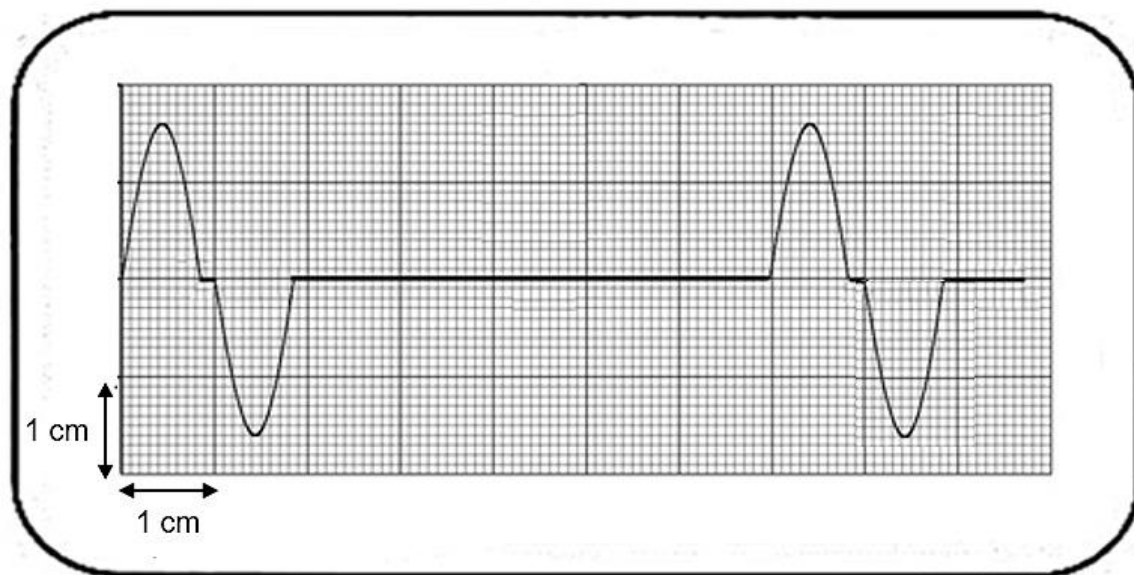

Fig. 5.2 (not to scale)
The voltage produced is monitored using a cathode ray oscilloscope (c.r.o.). The waveform displayed on the c.r.o. is shown in Fig 5.2.
- (i) Using the laws of electromagnetic induction, explain the shape of the waveform obtained in Fig. 5.2.
- (iv)** Describe and explain the changes, if any, to the waveform displayed in Fig. 5.2 when the rate of revolution of the cylinder is doubled.